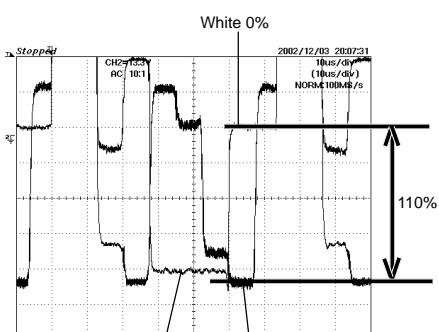

Fig. 2-3
7. Press the VOL. UP/DOWN button on the remote control until the red color level is adjusted to  $105 \pm 10\%$  of the white level. **(Refer to Fig. 2-3)**